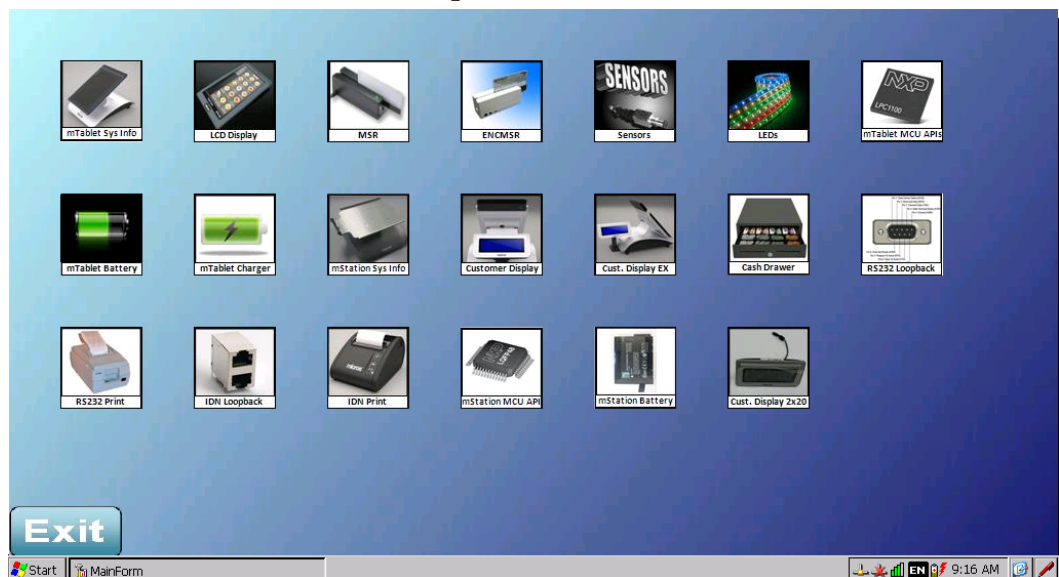

Figure M.7: Diagnostics Main Menu Docked
- ◆ Figure M.7 below shows the appearance of diagnostic menus when the mTablet is docked in mStation (Docked).